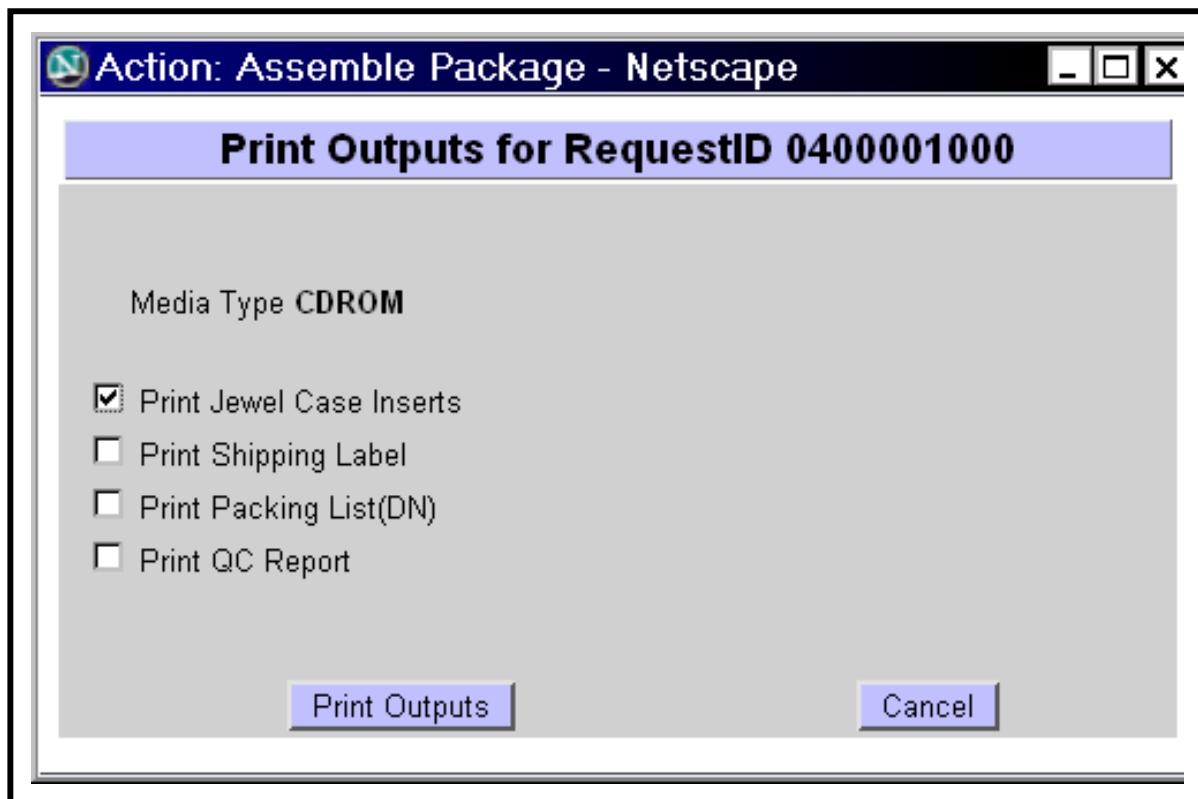

Figure 103. Print Outputs Page
The **Print Outputs** page (Figure 103) provides the full-capability operator with a means of reprinting certain documents associated with PMD production.
- A **Print Outputs** dialogue box (Figure 103) is displayed.
- **Packing List (DN).**